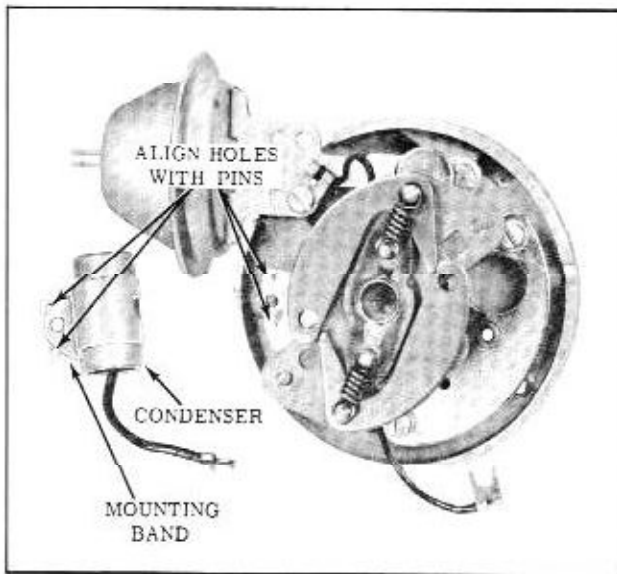

Fig. 13-60 Condenser Installation
1. Place condenser and mounting band in position on the breaker plate alignment pin and install mounting screw. (Fig. 13-60)